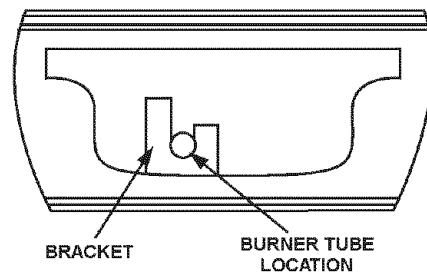

FIGURE 24.
- Reinstall the burner assembly through the door opening being careful not to damage the door gasket on the studs. Position end of burner tube inside bracket as shown in Figure 24.